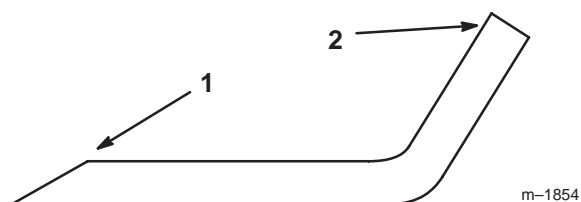
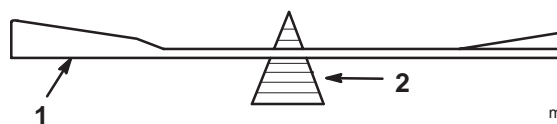

Figure 32
Figure 33
1. Use a file to sharpen the cutting edge at both ends of the blade (Fig. 32). Maintain the original angle. The blade retains its balance if the same amount of material is removed from both cutting edges.
2. Check the balance of the blade by putting it on a blade balancer (Fig. 33). If the blade stays in a horizontal position, the blade is balanced and can be used. If the blade is not balanced, file some metal off the end of the sail area only (Fig. 32). Repeat this step until the blade is balanced.